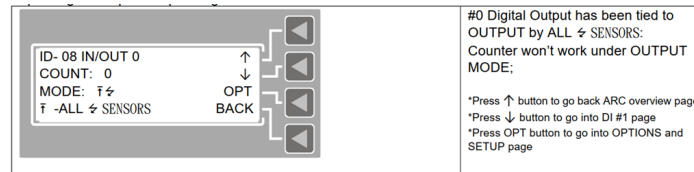

Figure 4.7: Phase A page – Normal Status
- Digital I/O is multi function and can be programmed through the IN/OUT SETUP menu on the SYM (Refer to Figure 4.7).